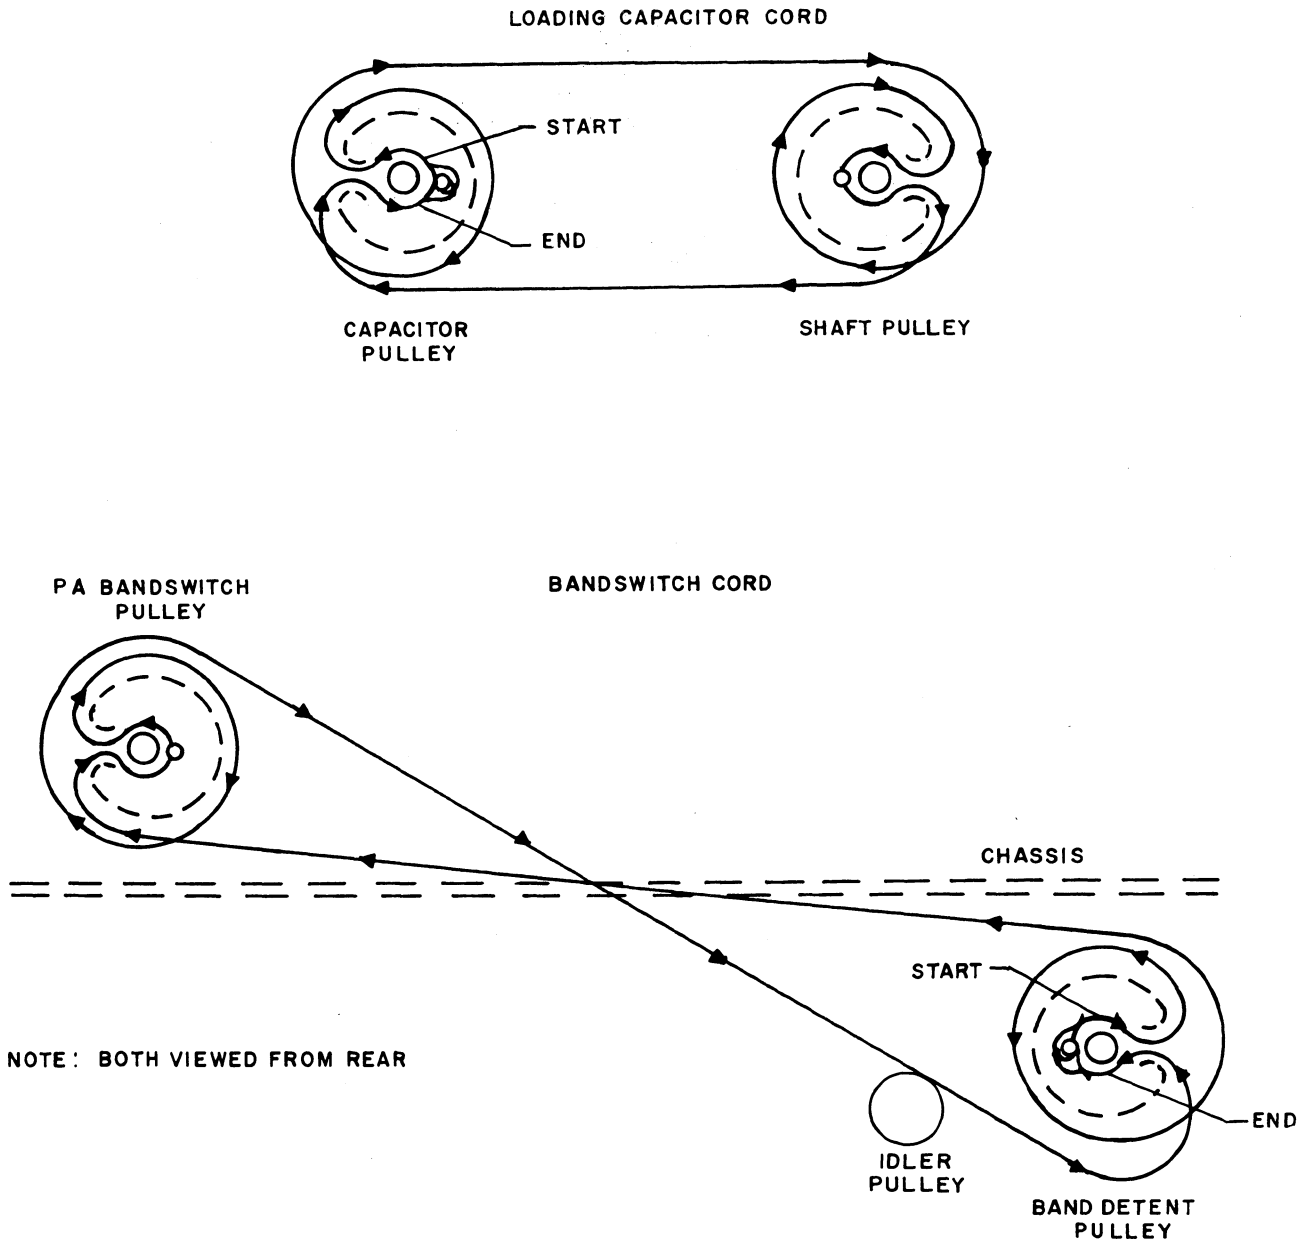

Figure 4-3. Dial Cord Stringing Diagram
**4.5 DIAL CORD REPLACEMENT.** (Refer to figure 4-3.)
d. String the cord according to the appropriate part of figure 4-3. **Make sure the cord turns do not overlap on the pulleys.** Pull the cord tight and tie to the tab. Make sure a short piece of spaghetti is slipped over the plastic covered cord so that it acts as extra insulation under the tab. This prevents r-f currents from melting the plastic and shorting the wire core to ground. Mash the tab down to clamp the cord securely. Tighten the idler to bring the cord to tension.
d. String the cord according to the appropriate part of figure 4-3. **Make sure the cord turns do not overlap on the pulleys.** Pull the cord tight and tie to the tab. Make sure a short piece of spaghetti is slipped over the plastic covered cord so that it acts as extra insulation under the tab. This prevents r-f currents from melting the plastic and shorting the wire core to ground. Mash the tab down to clamp the cord securely.